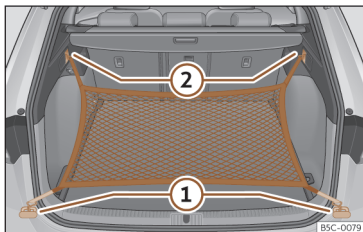

Fig. 195 In the luggage compartment: rings ① and hooks ② for attaching the net bag.
- Secure the short net hooks to the fastening rings >>> Fig. 195 ① >>> ⚠. The bag zip should be facing upwards.
- Secure the straps in the bag hooks ②.